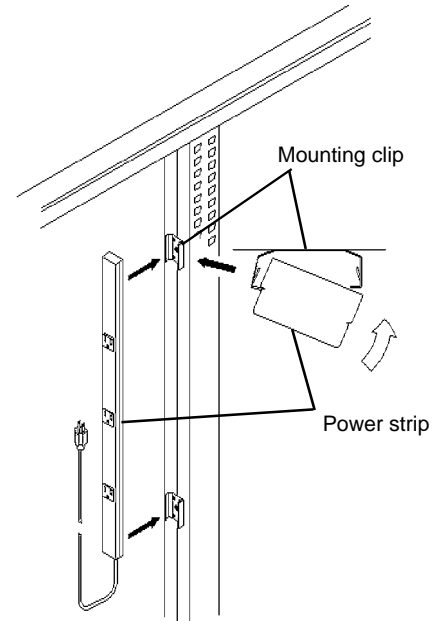

Figure 5
3. Next, install the Power Strip into the Clips by engaging one side of the Strip with the Clips and the pushing down to engage the other side. See **Figure 5**. Be sure that the Power Strip is firmly seated in each Clip.